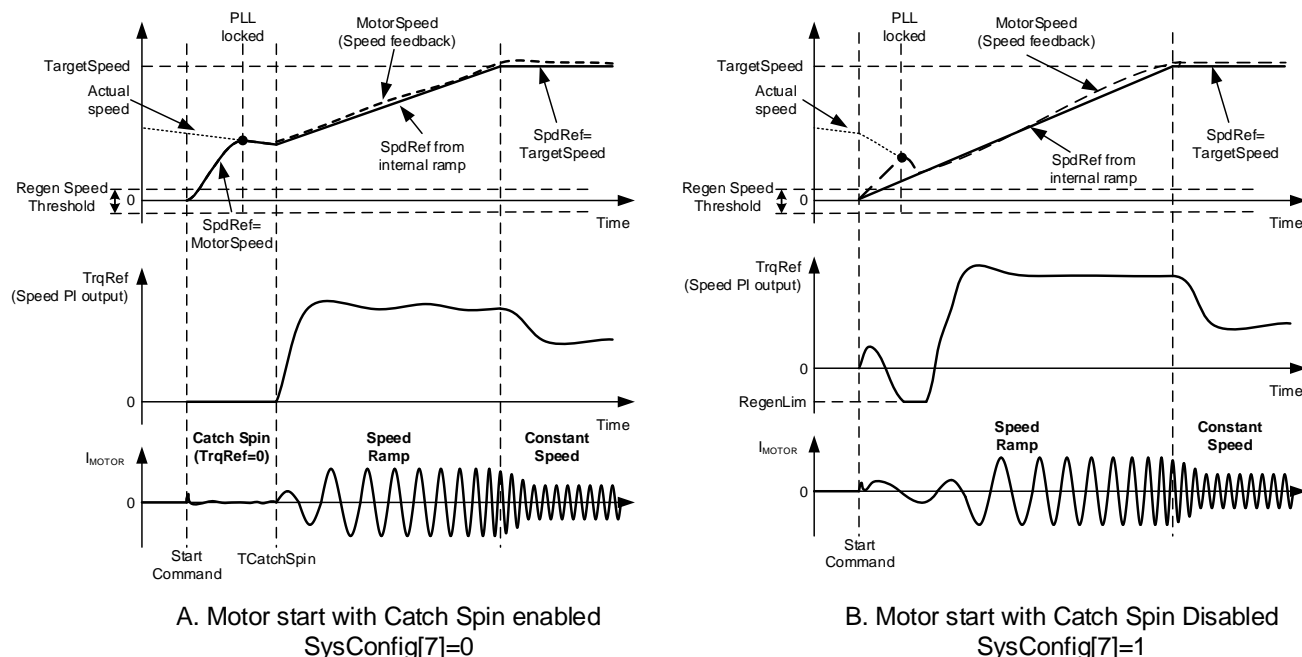

Figure 27: Forward Catch Spin - Motor start with/without catch spin
If the motor is spinning in the same direction as desired, then the catch-spin sequence is termed as 'Forward Catch-Spin'. Figure 27 (A) shows an example for 'Forward Catch – Spin'. In this example, at the start command the motor is already spinning (in the desired direction). During the catch spin sequence, no motoring current is injected. After the catch spin time has elapsed, assuming the flux PLL locks to the actual motor speed, the motor speed at that instance becomes initial speed reference and starting point for speed ramp reference. The motor continues to accelerate or decelerate, following the speed ramp reference to reach the set target speed.
If catch spin is disabled, normal speed control starts immediately after the start command, without waiting for PLL to be locked. Usually the control would still be able to start a spinning motor, but motor speed may not increase/decrease seamlessly. As shown in Figure 27 (B), after the start command, the actual motor speed is higher than speed reference (SpdRef). Hence, the motor is decelerated (using regenerative braking) to force the motor to follow the speed reference (SpdRef). As the speed of the motor is higher than Regen Speed Threshold (RegSpdThr), the negative torque injected in the motor to achieve deceleration is limited by the value in RegenLim register. Once the motor speed matches the speed reference, the motor starts accelerating, following the speed ramp reference to reach the set target speed.
If catch spin is disabled, normal speed control starts immediately after the start command, without waiting for PLL to be locked. Usually the control would still be able to start a spinning motor, but motor speed may not increase/decrease seamlessly. As shown in Figure 27 (B), after the start command, the motor is still spinning at a speed higher than Regen Speed Threshold (RegenSpdThr), hence the injected torque limited by the value defined in RegenLim register, forces the reverse spinning motor to decelerate via regenerative braking. Once the speed of the reverse spinning motor falls below Regen Speed Threshold (RegenSpdThr), the injected torque is limited by MotorLim ($\text{RegenLim} \leq \text{MotorLim}$). The injected torque forces the motor to come to a stop and start accelerating in the desired spin direction, following the speed ramp reference to reach the set target speed.